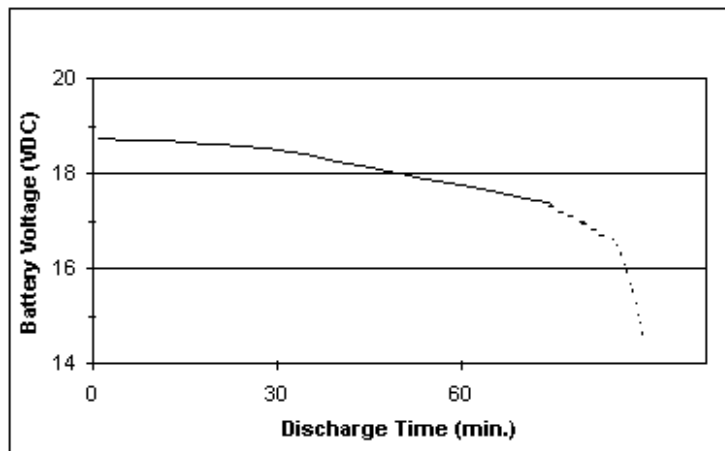

Fig. 2.5
The unit will continue operating on the standby battery for approximately one (1) hour or until the battery is exhausted. See Fig 2.5 for more information on battery discharge rate. The Gyro Warning flag will remain out of view, which indicates the gyroscope is valid and operating normally. Internal instrument lighting is provided in standby battery mode (with preset brightness not controllable through the panel lighting bus).